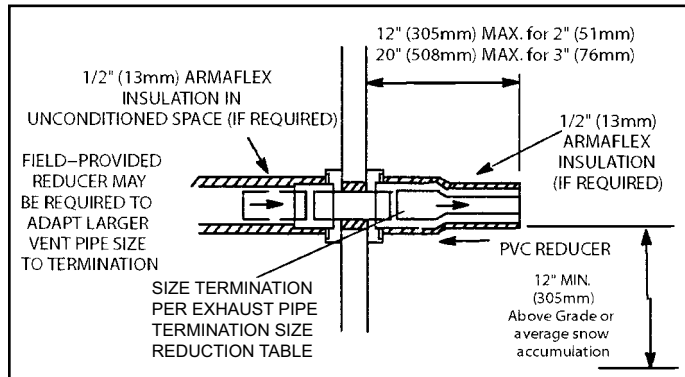

Figure 40. Non-Direct Vent Field Supplied Wall Termination
2. On field supplied terminations for side wall exit, exhaust piping may extend a maximum of 12 inches (305 mm) for 2" PVC and 20" (508 mm) for 3" (76 mm) PVC beyond the outside wall. See Figure 40.